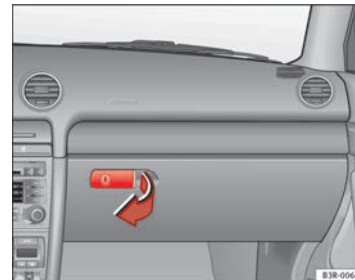

Fig. 136 Glove compartment
- Pull the handle on the lid in the direction indicated (arrow) ⇒ Fig. 136 and open the lid.